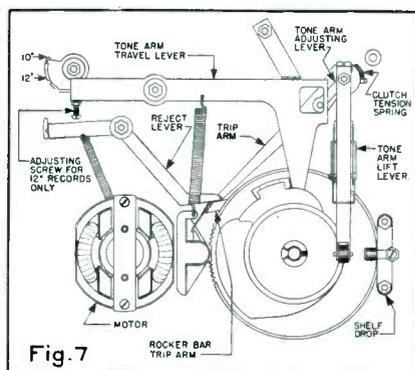

Fig. 7
To adjust tone arm drop, place gauge, reproduced on this page, on turntable, large hole (A) over spindle, place needle in tone arm and then place tone arm so the needle sets in small hole marked "Needle set for 10-in." Throw 10-in. record lever in correct position. The tone arm adjusting lever, see Fig. 7, must have its stud in contact with the tone arm travel lever, this lever must be in contact with die cast cam and gear. Loosen screw in adjusting lever and adjust lever, then tighten. Check operation and repeat until tone arm drops in correct position.
- 2) It may be possible that the trip arm may have jumped to the wrong side of the rocker bar trip arm, see Fig. 7. It should be on the same side as reject arm.